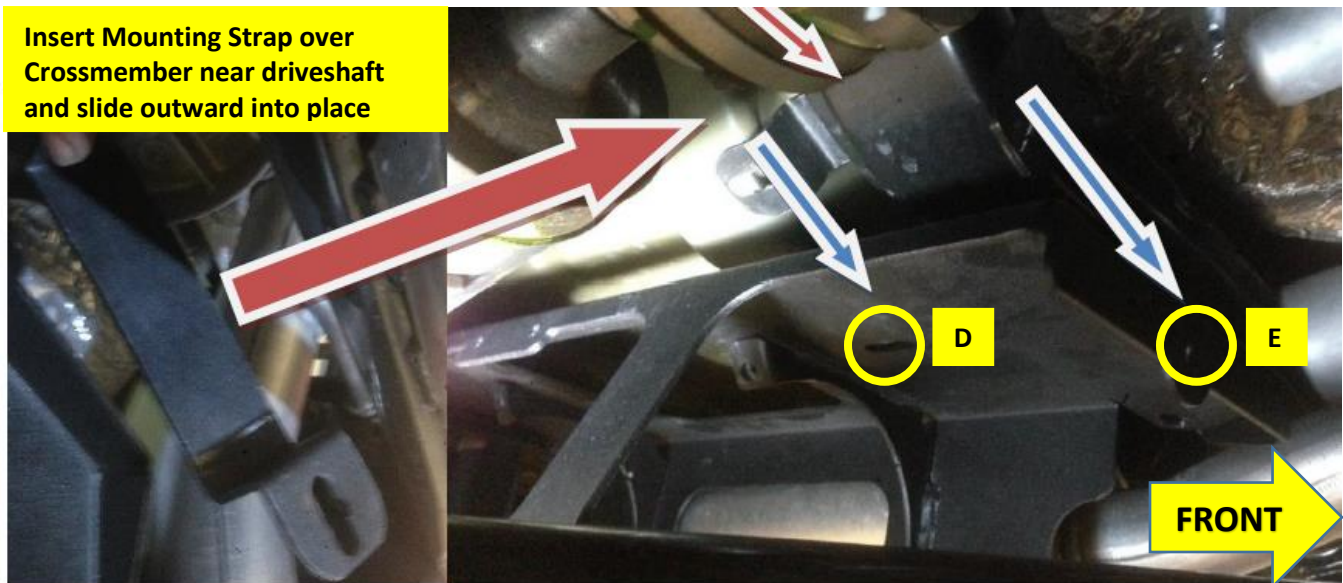

Figure 11 - JK-201 & JK-203 Mounting Strap Install over Crossmember
- 10.3.7. Insert JL-203 Mounting Strap over JK-201 and middle crossmember; it is easiest to slide Strap over crossmember near driveshaft, then position it over correct mounting holes. Reference Figure 11 above.